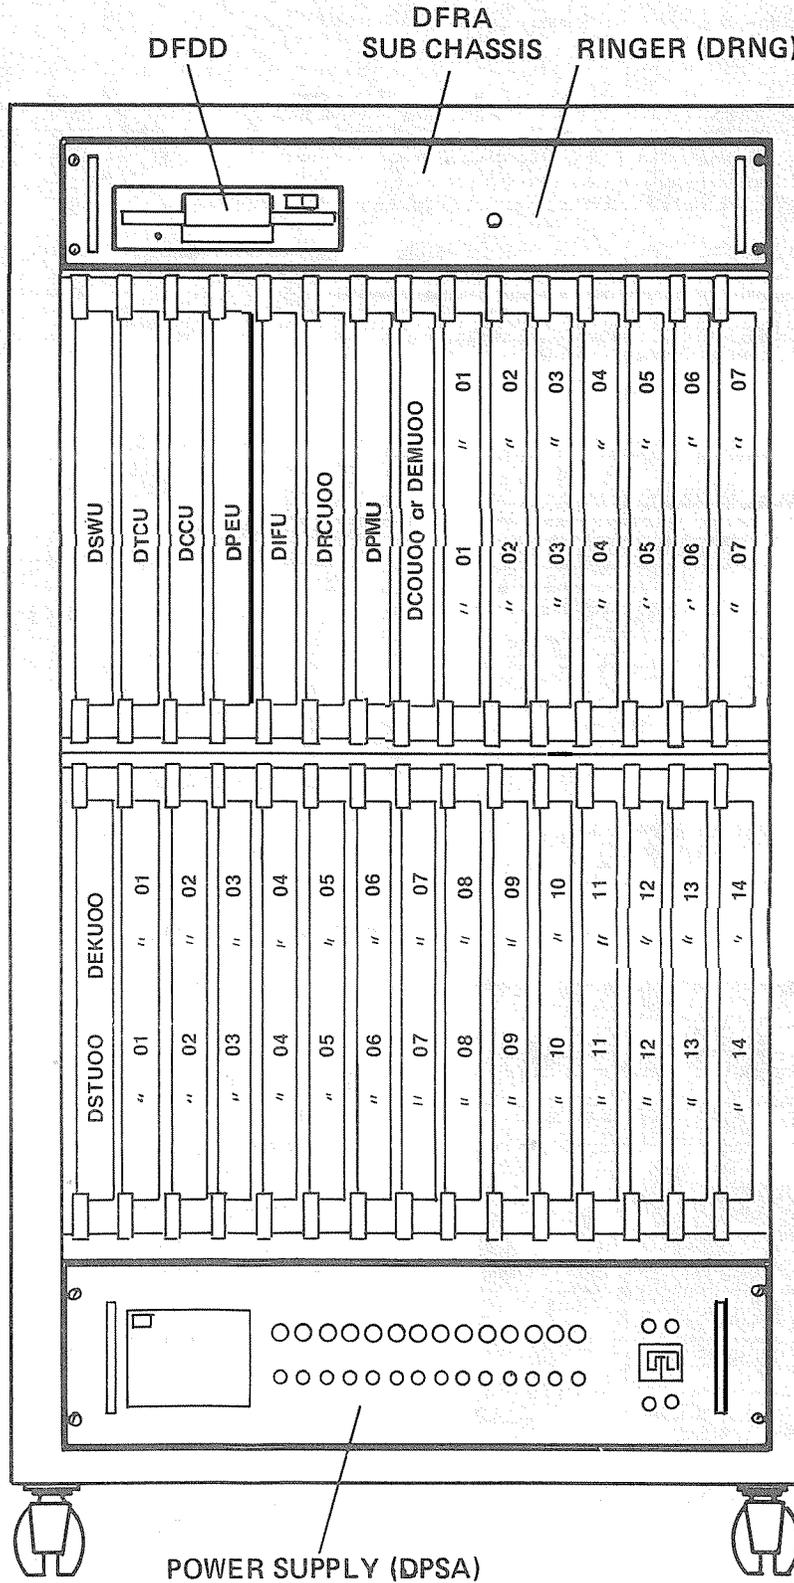
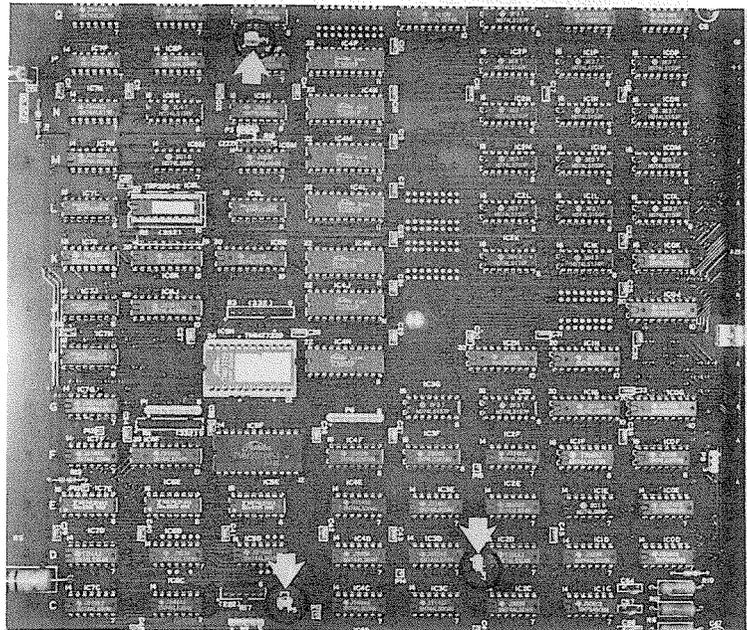

FIGURE 17 - DCEC INTERIOR
FIGURE 18-DTCU PCB
05.41 Install the DSWU, DTCU, DCCU, DPEU, DRCU and DPMU in their proper positions per Figure 17. There are no options to select on these PCBs; however, there are plug verifications to be made on the DTCU, DCCU and DPEU boards. Refer to Figures 18, 19 and 20 and verify that the connection plugs are in place at the locations indicated prior to installation.
- h) Install the DCOU PCB(s) (one for each group of four circuits) in the slots designated TOO through TO7 on the DCEC upper shelf (Figure 17).
- d) Install the DEMU PCB(s) (one for each group of four circuits) in the slots designated T00 through T07 on the DCEC upper shelf (Figure 17).